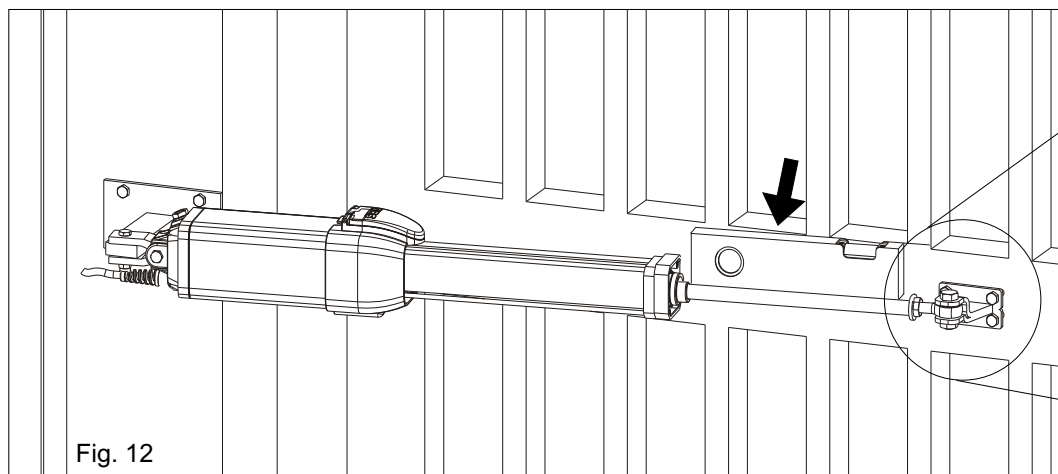

Fig. 12
The support must be positioned so that the operator is in perfect horizontal position (Fig. 10, Fig.12).
- 4) Position the operator perfectly horizontal and mark the position of the front fixation (Fig. 12)